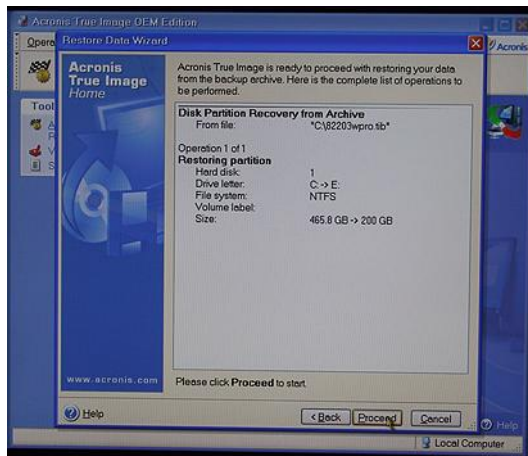

Figure 3-67
- 31) Simply click the **Next** button to be presented with the **Restore Data Wizard** summary screen (Figure 3-67)